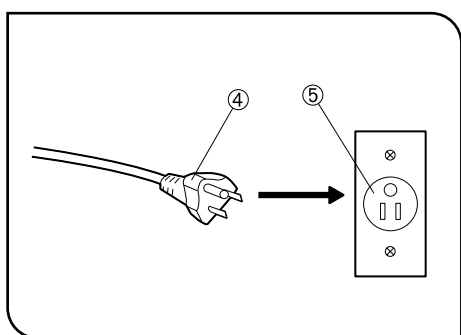

Fig. 32
2. Plug the power cord plug ④ into the wall outlet ⑤. (Fig. 32)